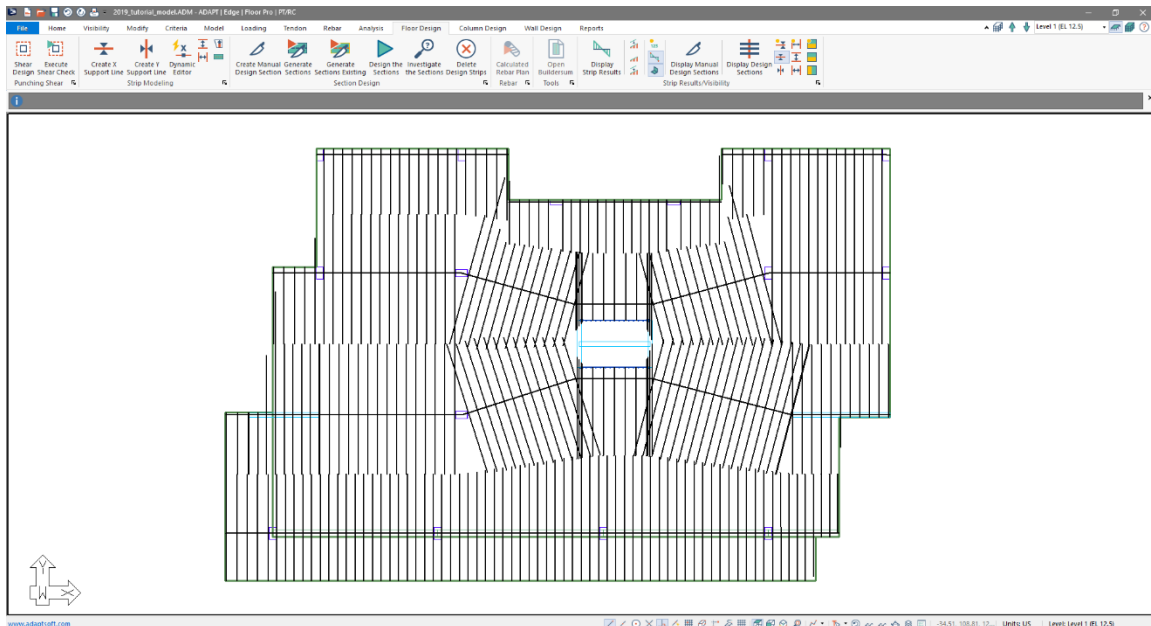

Figure 9-21
- Click on the *Top View*  icon in the **Bottom Quick Access Toolbar**. This will bring you to the view of the model shown in **FIGURE 9-21**.